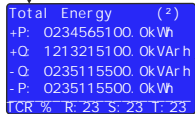

Figure-7
When you press the UP button, figure-7 is displayed on the screen.
**Figure-7:** Total energy values are displayed on the screen. Active Energy, Inductive Energy, Capacitive Energy, Export Active Energy and Apparent Energy values are displayed respectively by pressing the RIGHT button.